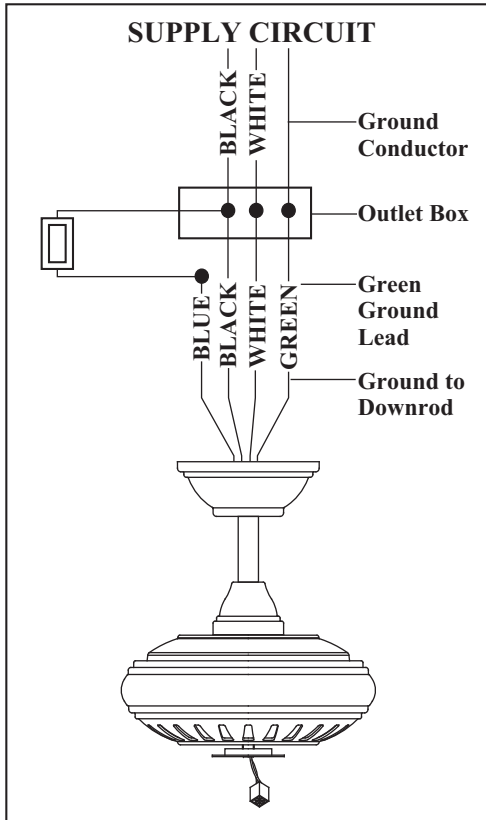

Figure 13
6. Figures 13 and 14 illustrate the wiring connections for optional wall control (available at your Hampton Bay Retailer, the wire color out of wall control may vary, see wall control's installation manual for correct wire connections.)